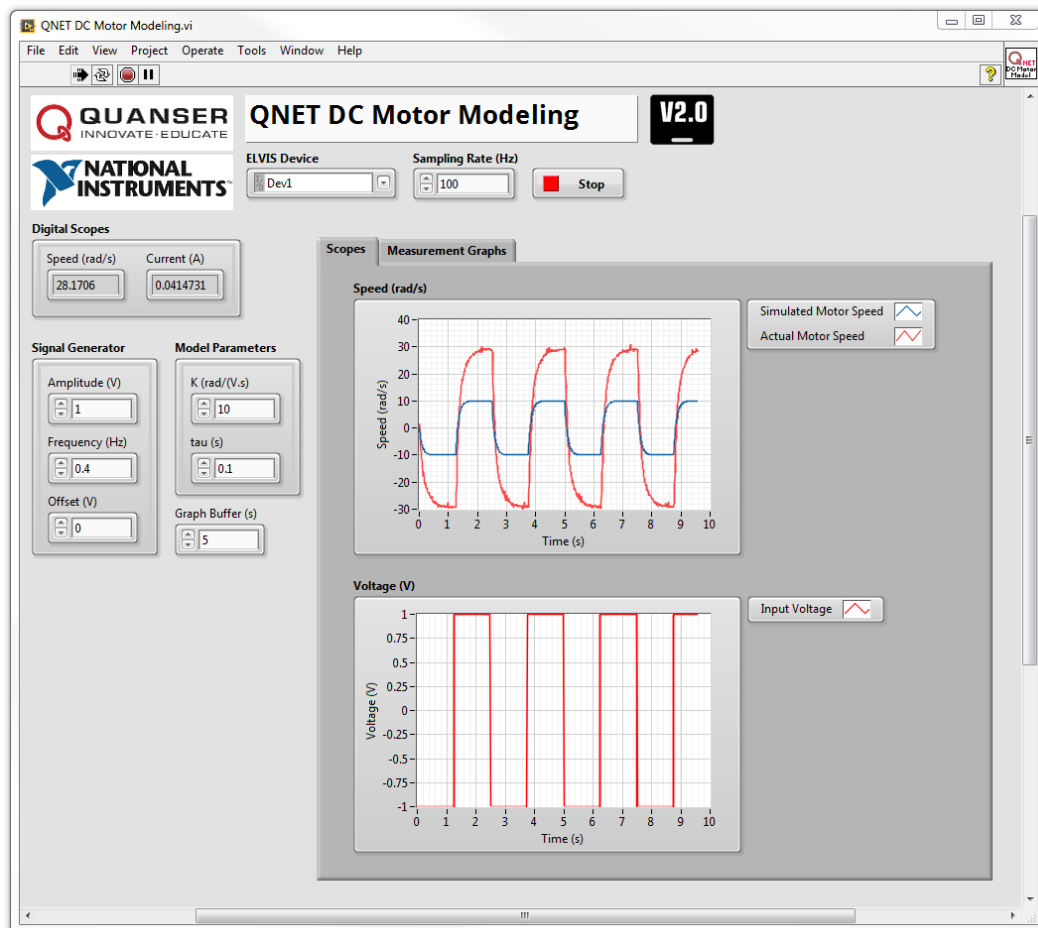
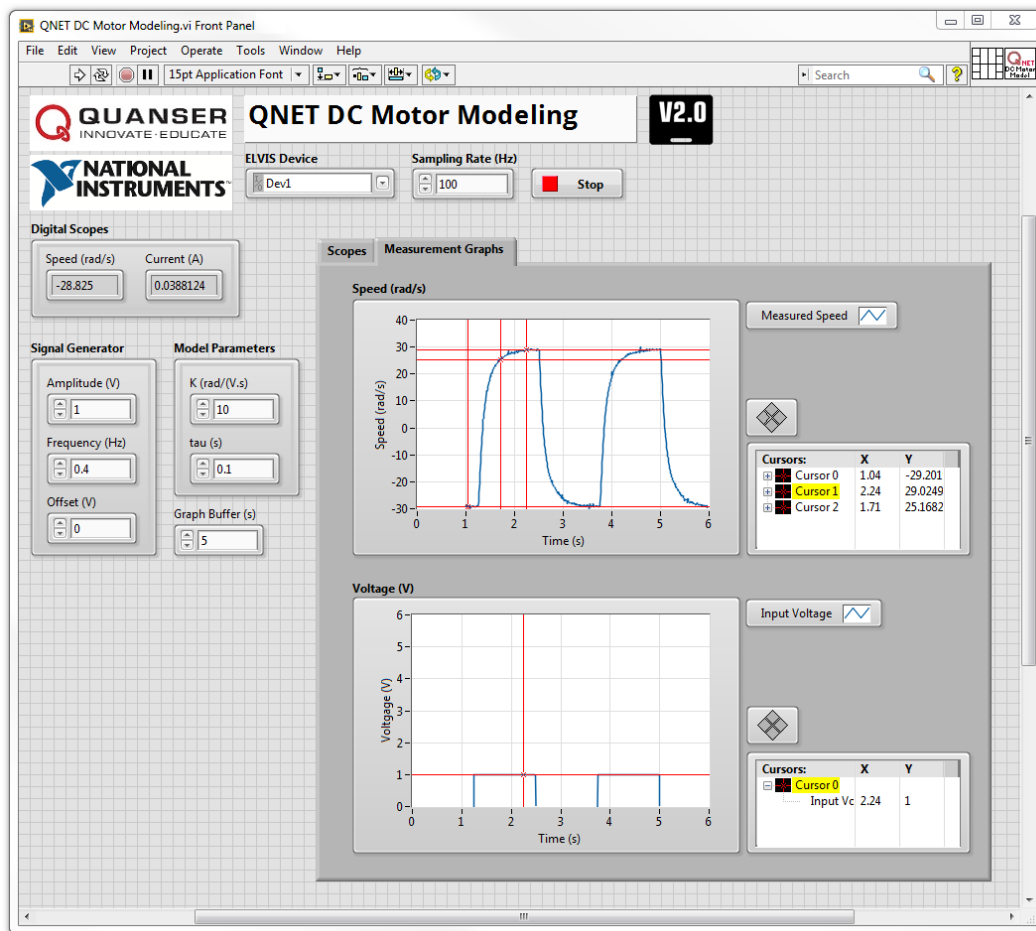

Figure 1.2: LabVIEW™ VI for modeling QNET DC Motor
Figure 1.3: QNET DC Motor Modeling VI: sample response in Measurement Graphs
Applying a voltage to the QNET DC Motor and examining its angular rate is investigated in the laboratory. The model simulation is run in parallel with the actual system to allow for model tuning and validation. The LabVIEW™ virtual instrument for modeling is shown in Figure 1.2. Figure 1.3 shows the graphs-view of the VI, which is used to take measurements.
2. Run the VI. The DC motor should begin spinning and the scopes on the VI should appear similar to those shown in Figure 1.2.
- Amplitude (V) = 2.0
- Offset (V) = 3.0
6. Select the Measurement Graphs tab to view the measured response as depicted in Figure 1.3.
2. Run the VI. You should hear the DC motor begin running and the scopes on the VI should appear similar to those shown in Figure 1.2.